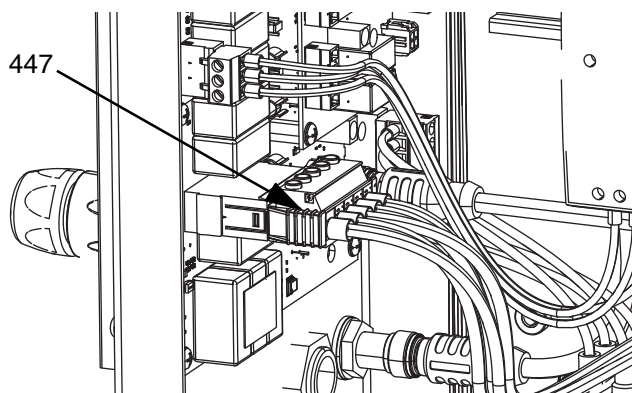

FIG. 17
9. Connect the CAN cable included with the Expansion Module to Bulkhead 2 (B2) in AMZ 1 in the Heat Control Box (S).
10. Connect the wiring harness (479) from the Expansion Module to AMZ1 as shown in FIG. 17.